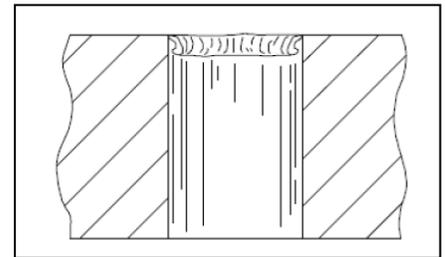

Figure 7 Rolled Burr
- e. **Rolled Burr** (see Figure 7):